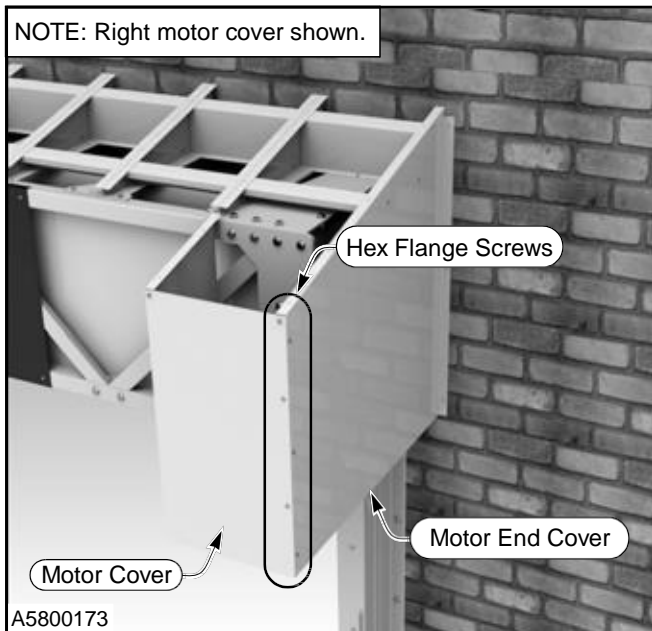
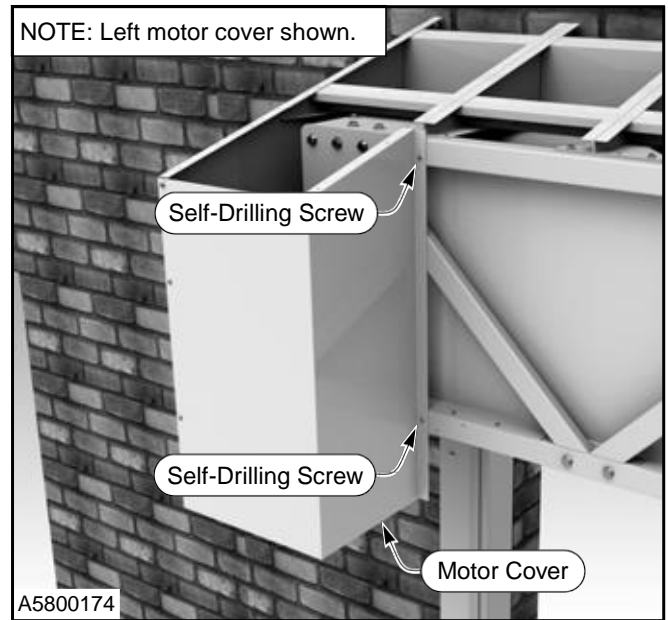

Figure 44
Figure 45
17. Secure motor covers to truss using $\frac{1}{4}$ -14 x $\frac{3}{4}$ self-drilling screws. (See Figure 44 and Figure 45)